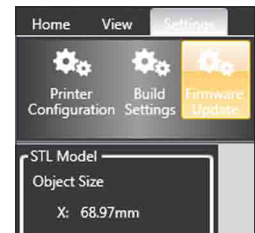

Fig. 118
11. Navigate to the settings tab to the CubeX software and press the Firmware update button. (Fig. 118)